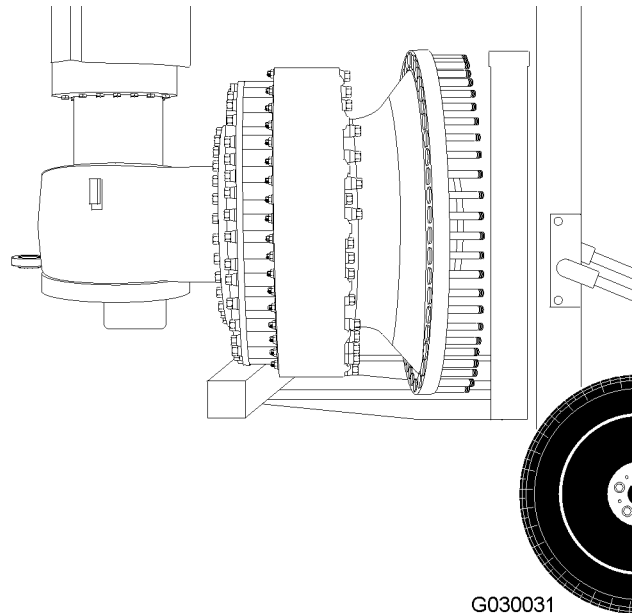

FIGURE 3-3. TYPICAL LIFTING DEVICE (FORKLIFT)
3. Position the spindle and wheel hub assembly on a fork lift or similar lifting device as shown in Figure 3-3.